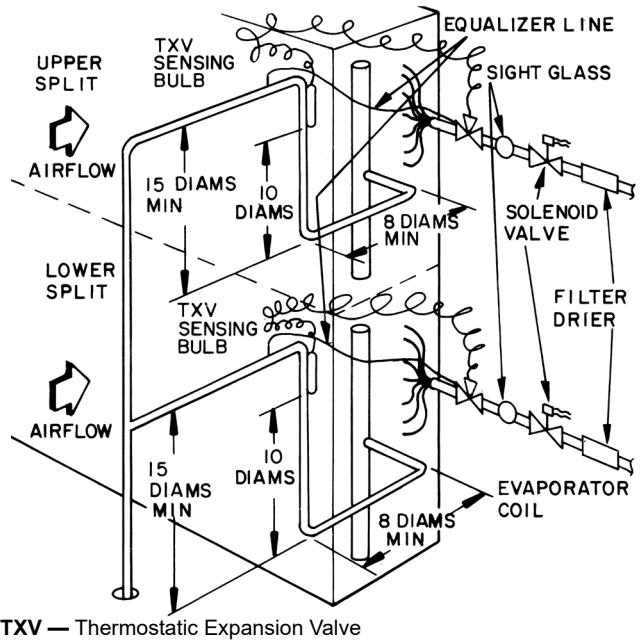
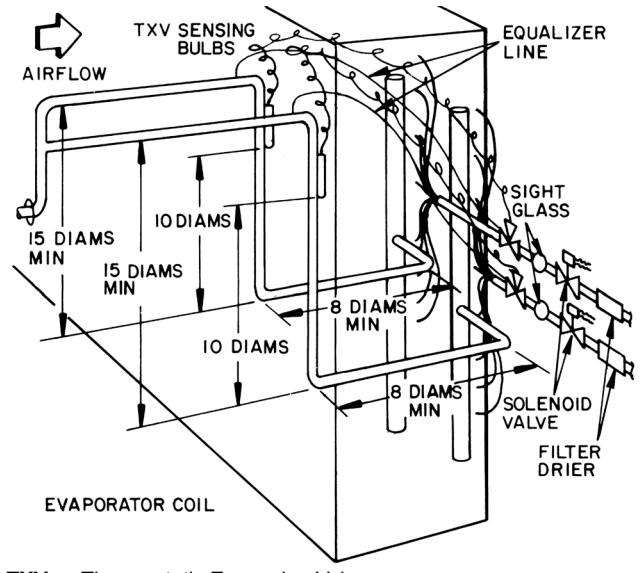

Fig. 51 — Face Split Coil Suction Line Piping
Fig. 52 — Row Split Coil Suction Line Piping
Connect suction piping as shown in Fig. 51 for face split coil or Fig. 52 for row split coil.
3. Solder expansion valve equalizer line to suction line and locate control bulb on suction line as in Fig. 51 or 52.